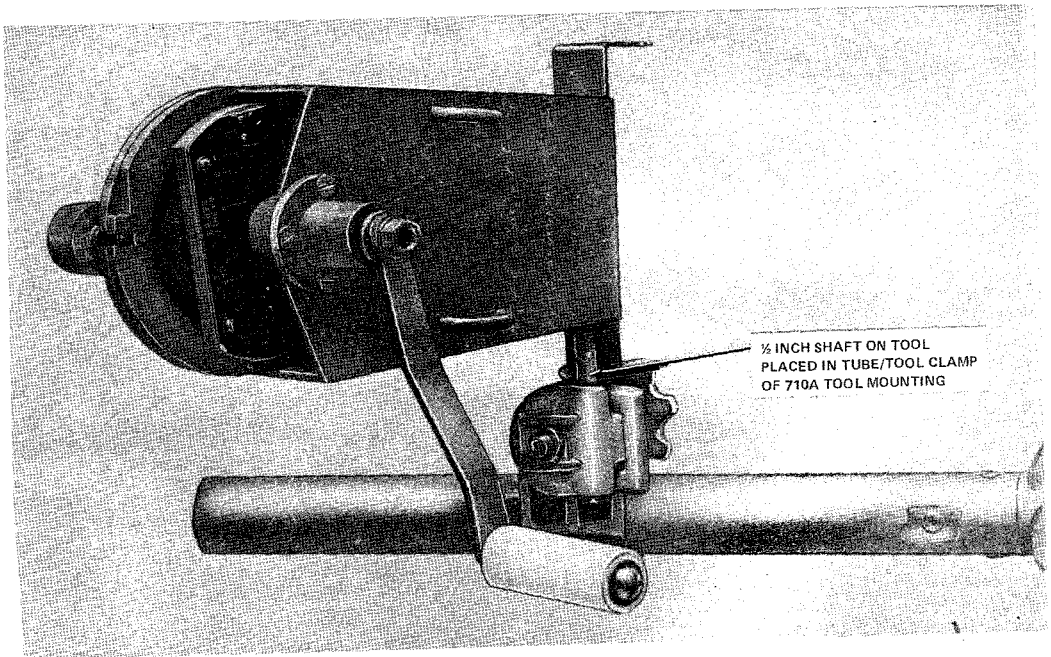

Fig. 2—849A Sealing Washer Cutter Mounted on 710A Tool Mounting
- 3.01** Install the 849A Sealing Washer Cutter as shown in Fig. 2, 3, 4, or 5.